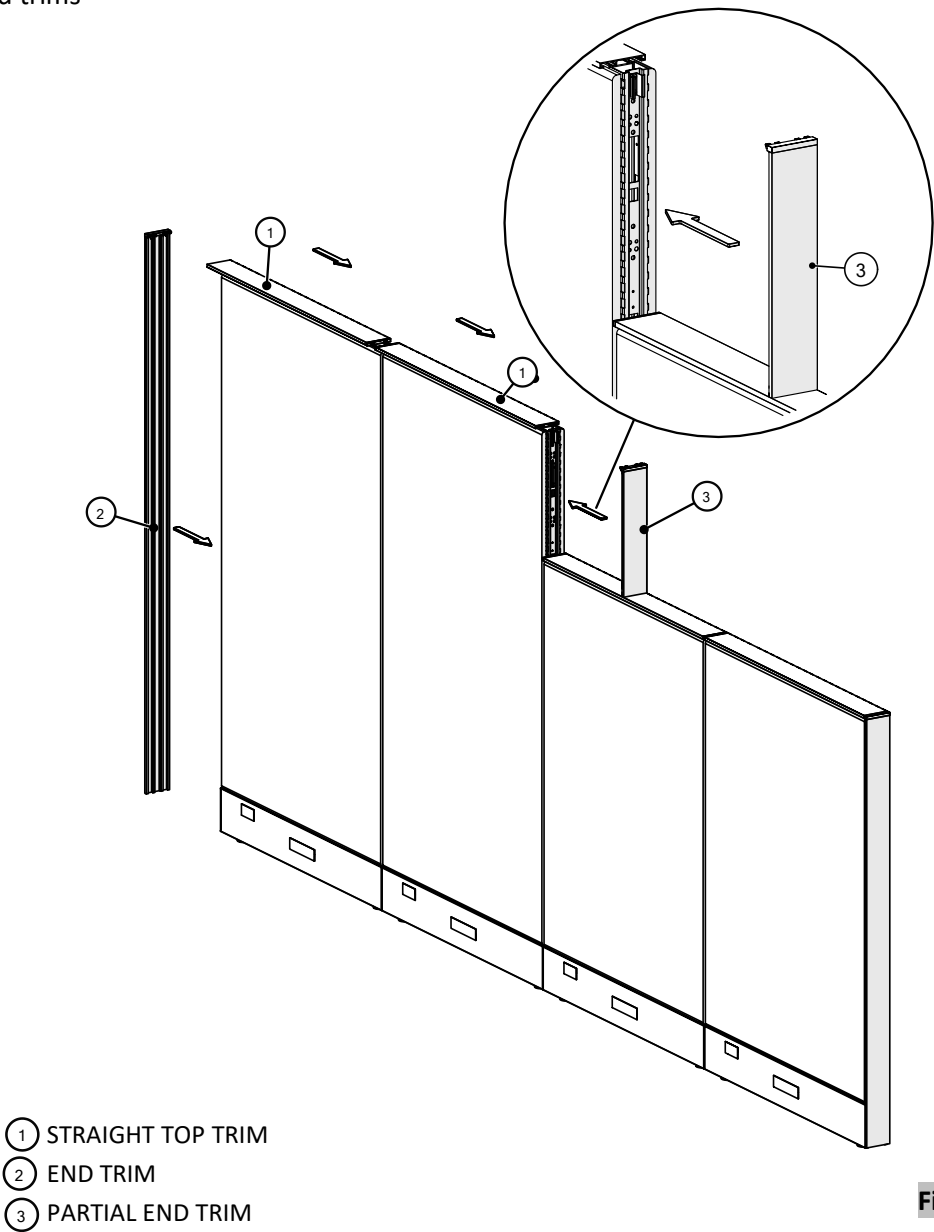

Figure 5
5. For variable height panel frames; use partial end trims (Figure 5).